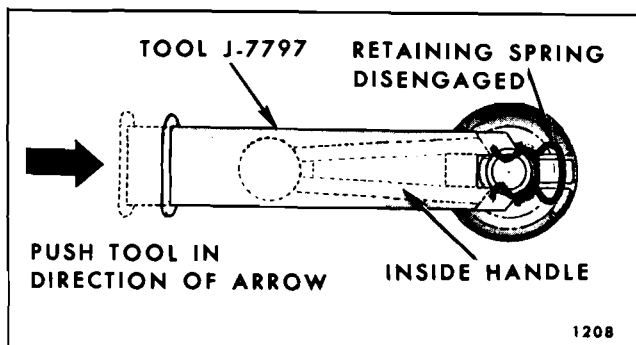

Fig. 14-10—Clip Retained Door Inside Handle Removal
On styles with clip retained handles, the clip is either exposed when the arm rest is removed, or else is hidden by the handle (Fig. 14-10). Exposed clips can be disengaged from the remote control spindle with a screwdriver. Clips hidden by the handle can be disengaged as follows:
2. With tool in same plane as handle as shown in Figure 14-10, push tool as indicated to disengage clip. Pull handle inboard to remove from spindle.